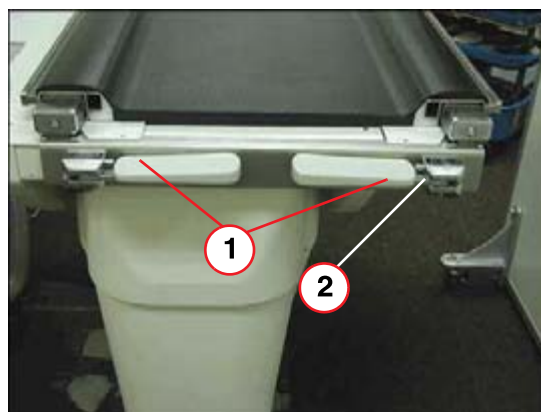

Fig. 111: Elbow rest installation
- Attach the elbow rests at the foot end of the table and fold them in (1/Fig. 111 / p. 87).
Adjustment is performed using an Allen wrench on the bottom side of the elbow rests (2/Fig. 111 / p. 87).